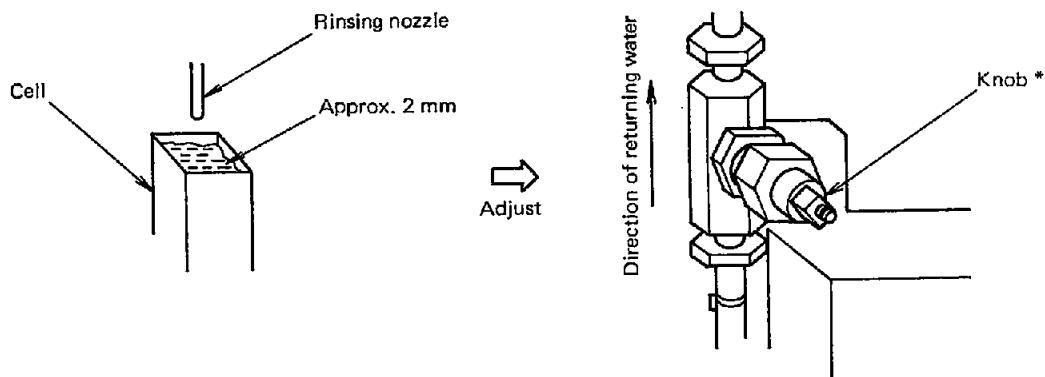

Fig. 4-1-19
(2) Check Water Volume in Reaction Bath.
- (3) Check Rinse Volume.
- Check visually that cell is full with 2 mm space from its upper rim. If the cell is not full or water overflows, adjust it as shown in Fig. 4-1-19.